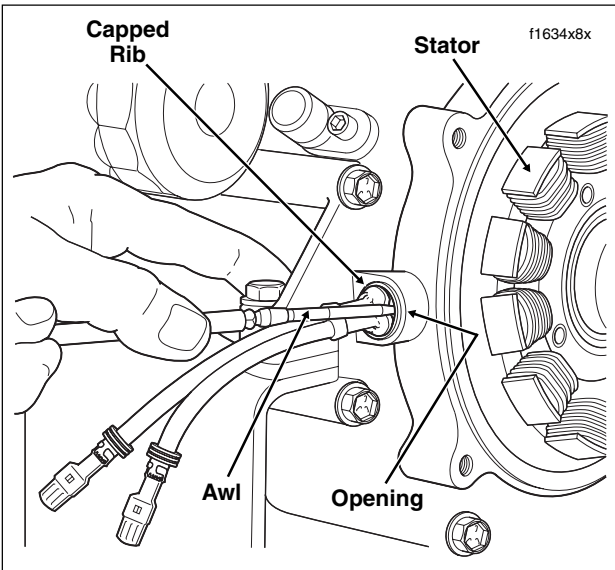

Figure 8-14. Remove Grommet From Crankcase
13. Using point of awl, carefully lift capped rib on grommet away from crankcase and then insert into bore between grommet and casting. See Figure 8-14. Tilt awl slightly squirting isopropyl alcohol or glass cleaner into opening. Repeat this step at one or two other locations around grommet.